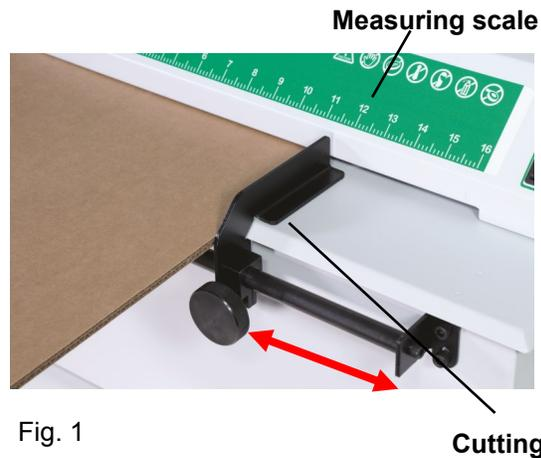

Fig. 1
2. To choose a custom width, adjust the cutting guide based on the side trim measuring scale (Fig. 1). Loosen the knob, slide the guide to the chosen width, then tighten the knob.